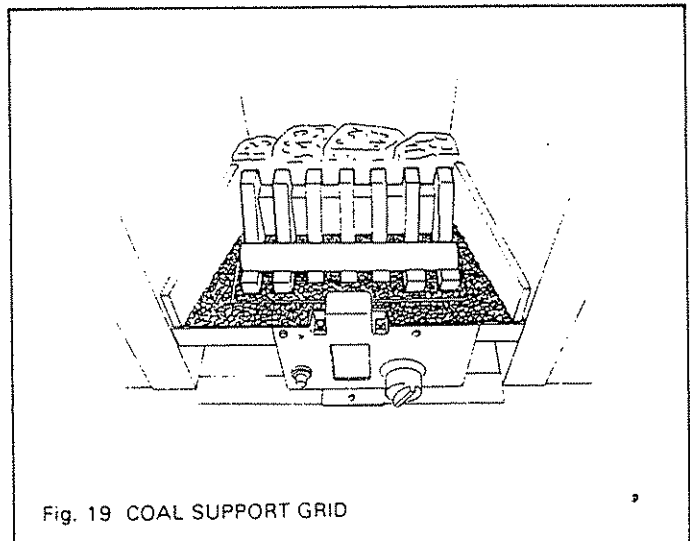

Fig. 19 COAL SUPPORT GRID
7.7.4 Place the coal support grid in position making sure that it locates fully in the channel at the centre of the back brick (see fig. 19).